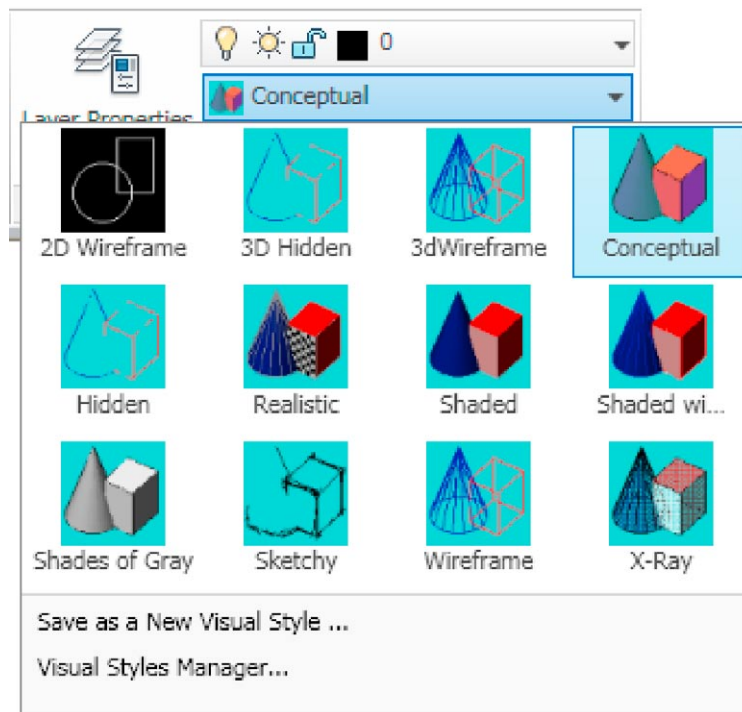

Fig. 12.8 Selecting **Conceptual** shading from **Visual Styles** in the **Layers & View** panel
## The Polysolid tool (Fig. 12.8)
5. Select **Conceptual** from the **Layers & View** panel (Fig. 12.8).